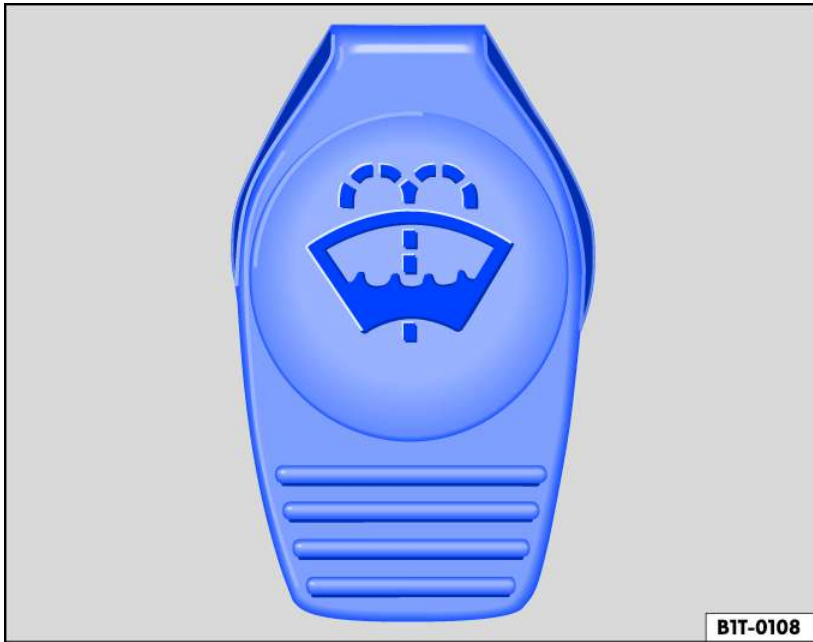

Fig. 139 In the engine compartment: cap on the washer fluid reservoir.
2. The washer fluid reservoir is identified with the symbol on the cap *fig. 139*.